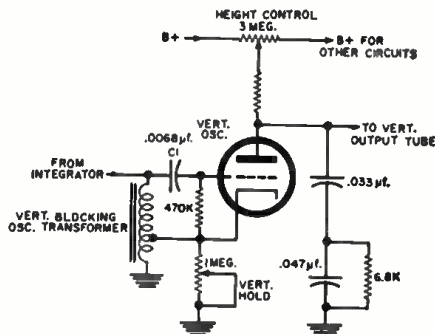

Fig. 2. The proper replacement for one capacitor here can lick vertical drift.
**QUESTION:**  $C_1$  in the vertical oscillator circuit shown in Fig. 2 is a ceramic disc